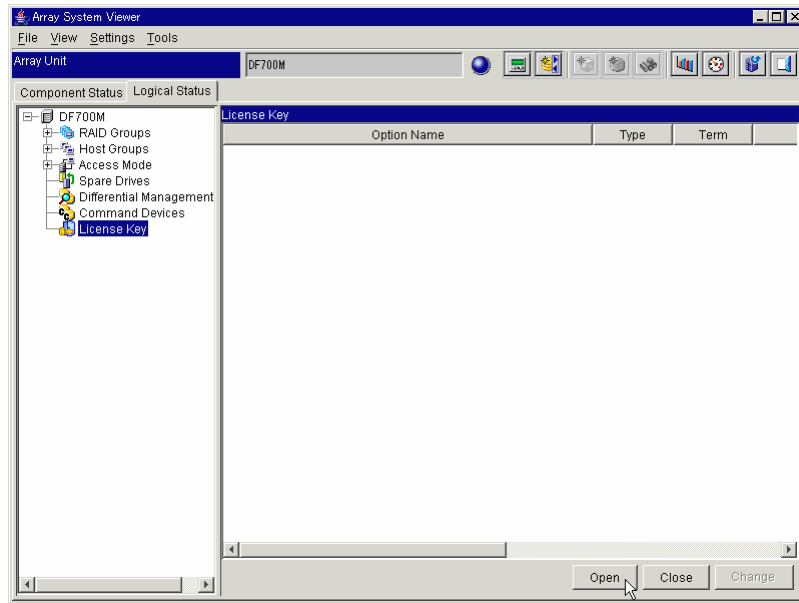

Figure 4.1 Array System Viewer Window (Logical Status Tab)
4. Click the **Logical Status** tab (Figure 4.1).
5. Click the **License Key** icon (Figure 4.1).
3. Click the **Logical Status** tab (Figure 4.1).